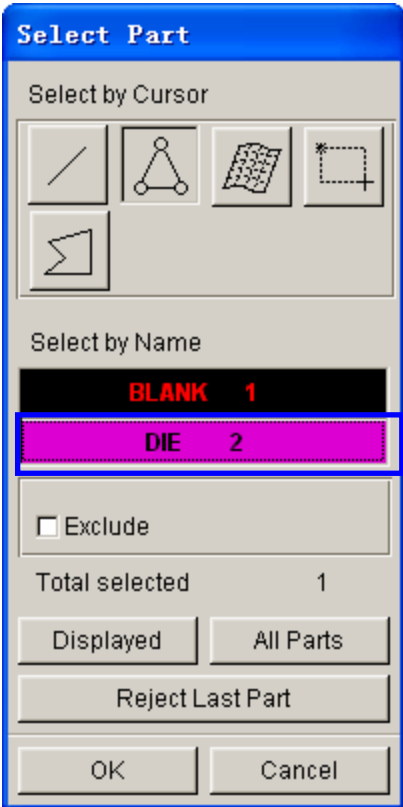

Figure 4.16 Select part
6. Select **DIE** part from the SELECT PART dialog box illustrated in Figure 4.16.